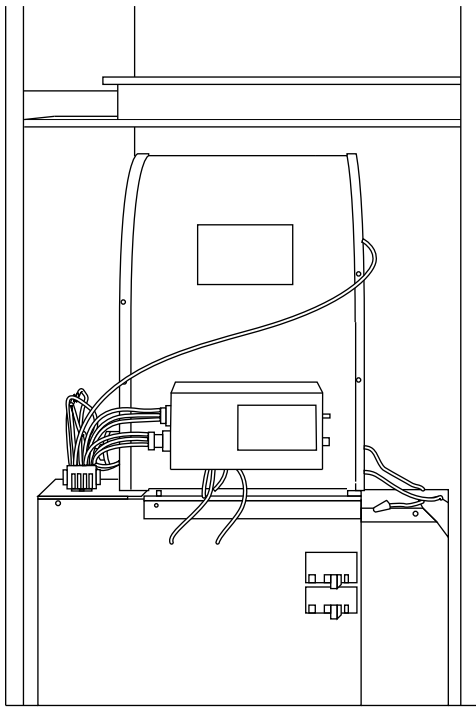

Fig. 17—KMABA03013TE or KMABA04014TE Blower Installed in 3400/3400A Furnaces
3. Installed blower assembly should appear as shown in Fig. 17 or 18.
1. Connect multi-point plug. (See Fig. 17 or 18.)